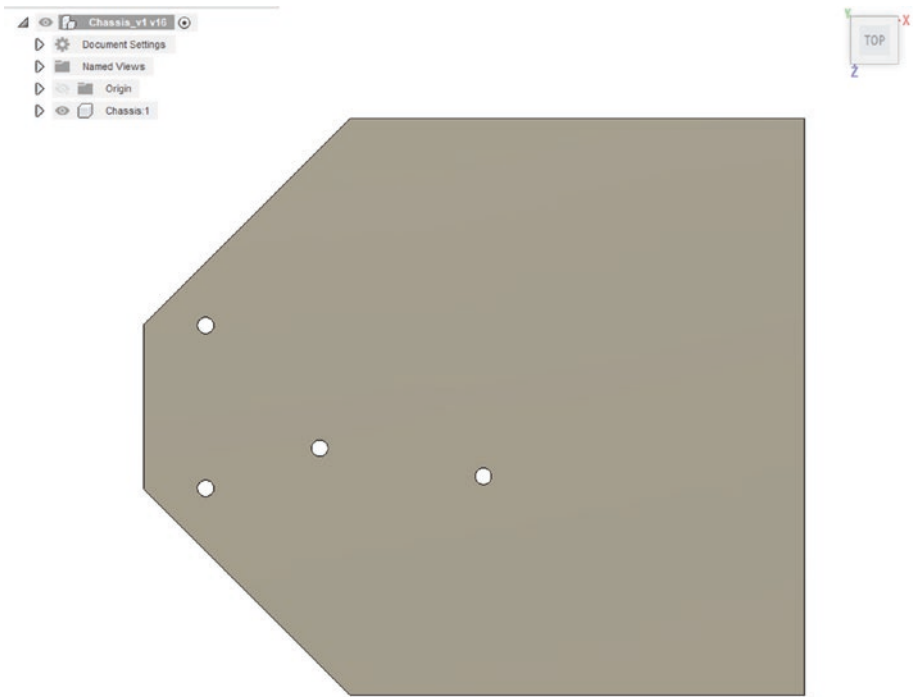

Figure 6-56. *Add two 50mil chamfers*
11. Make a 50mm chamfer  Chamfer at the front of the chassis. See Figure 6-56.